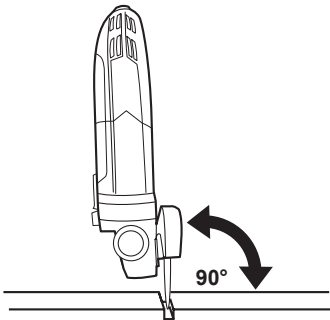

Fig. 20
2. Hold the product so that the cutting wheel is at a 90° angle to the workpiece (Fig. 20).